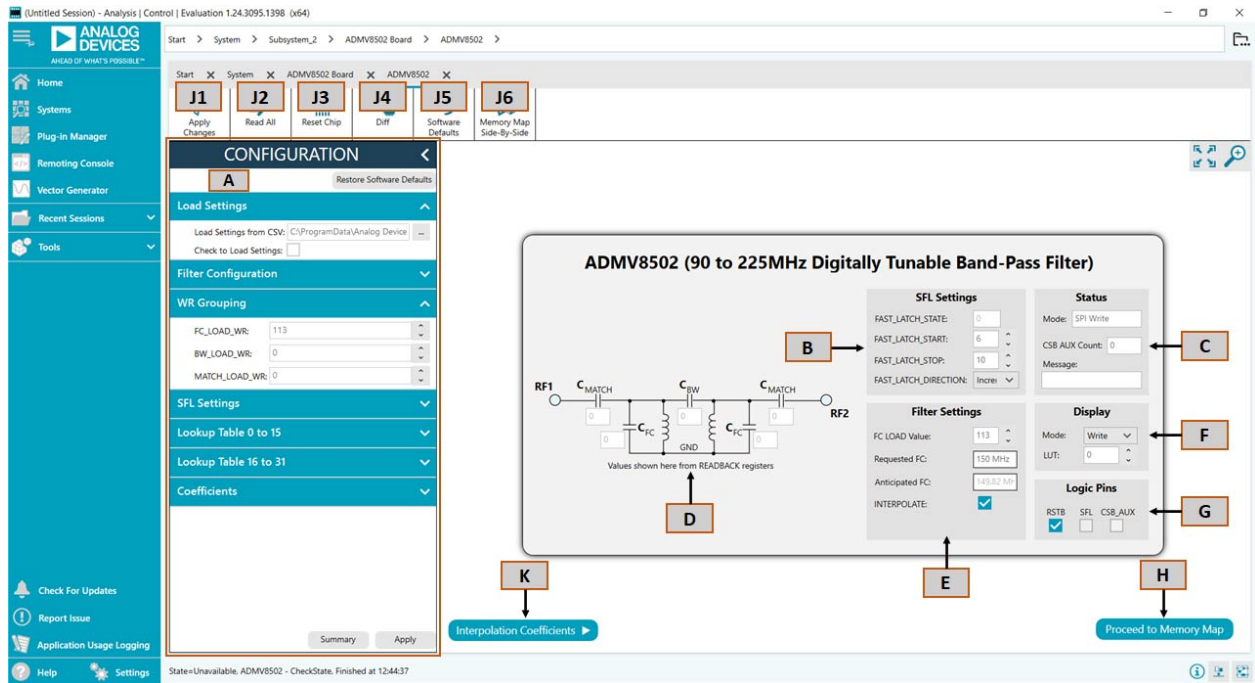

Figure 7. ADMV8502 Chip Plug-In with Labels
The full screen ADMV8502 chip plug-in with labels is shown in Figure 7. The labels correspond to items listed in Table 1, which
Table 1. ADMV8502 Chip Plug-In Label Functions (See Figure 7)
Table 1. ADMV8502 Chip Plug-In Label Functions (See Figure 7) (Continued)
E	<p>The Filter Settings section shows several controls for configuring the filter. Depending upon if INTERPOLATE is enabled, various controls can be visible. When INTERPOLATE is enabled (as shown Figure 7), the following controls are visible:</p> <p>FC_LOAD Value: this numeric up and down box (0 to 255) is used to set the desired center frequency value. Note that this is a unitless quantity, where a 0 corresponds to the lowest center frequency, and 255 corresponds to the highest center frequency.</p> <p>Requested FC: enter in a requested center frequency in this text box. The value entered is used to compute the closest FC_LOAD Value for that frequency of operation.</p> <p>Anticipated FC: this text box is an estimation of the operating center frequency based upon the FC_LOAD Value.</p> <p>INTERPOLATE: this check box enables the interpolation functionality on the chip.</p> <p>When INTERPOLATE is disabled (not shown in Figure 7), the following controls are visible:</p> <p>FC_LOAD Value: this numeric up and down box (0 to 255) is used to set the desired center frequency capacitor code.</p> <p>BW_LOAD Value: this numeric up and down box (0 to 255) is used to set the desired bandwidth capacitor code.</p> <p>MATCH_LOAD Value: this numeric up and down box (0 to 255) is used to set the desired input and output match capacitor code.</p> <p>INTERPOLATE: this check box enables the interpolation functionality on the chip.</p> <p>READBACK Values to Filter Settings: this button is available when interpolation is disabled. Click this button to populate the read back values from the hardware into the FC_LOAD, BW_LOAD, and MATCH_LOAD values.</p>
If a reset of the ADMV8502 chip is required on the ADMV8502-EVALZ, click **Reset Chip** (see Figure 7, Label J3, and Table 1 for additional information). This automated sequence performs the following actions:
- ▶ The $\overline{\text{RST}}$ pin can also be pulled low from within the ACE software by unchecking the **RSTB** check box in the lower right corner of Figure 7 (see Label G). When using this option, be sure to click the check box again to return the $\overline{\text{RST}}$ pin high.